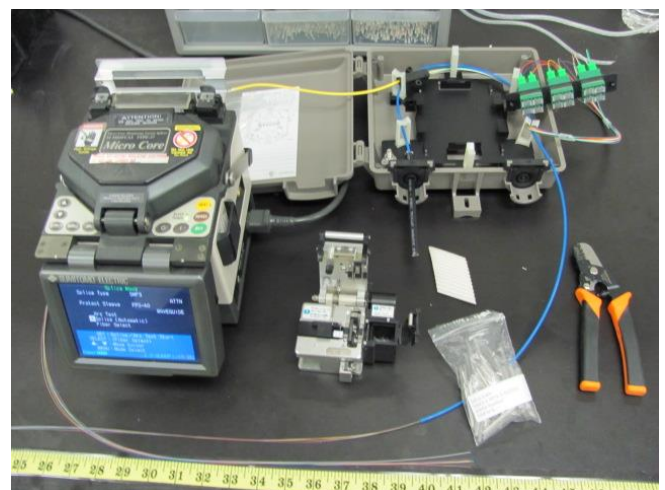

Figure 2
4. Remove accessory kit of splice chip and zip-ties from under splice tray clear protecting film (Figure 2)